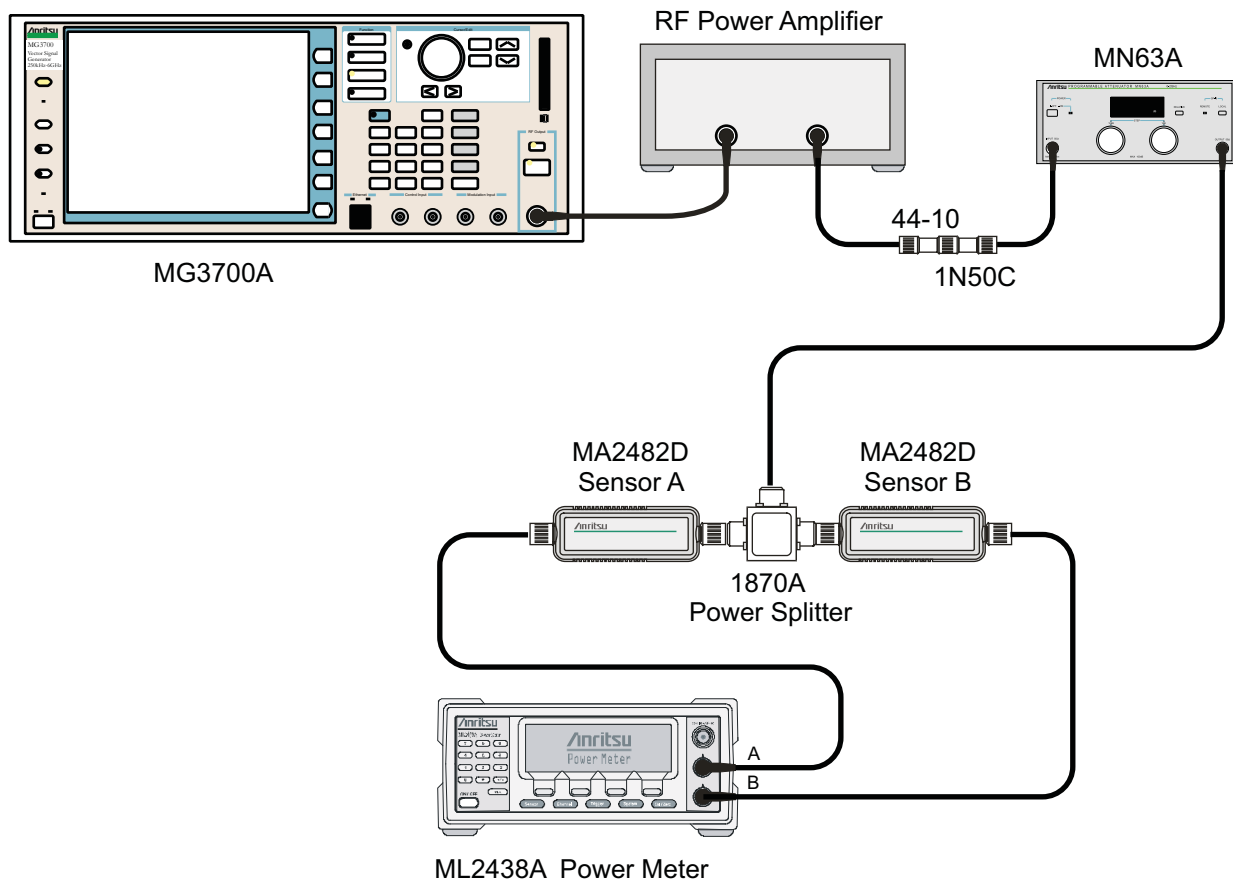

Figure 4-15. Level Accuracy Verification Setup
2. Connect the MG3700A Signal Generator, Power Amplifier with N(f)-to-BNC(m) adapters, RF Limiter, MN63A Programmable Attenuator, Power Divider, Power Meter, and Power Sensors as shown in Figure 4-15 on page 4-68
52. Turn Off the power amplifier, disconnect the power splitter from the Spectrum Master, and reconnect Sensor A to the power splitter as shown in Figure 4-15 on page 4-68.
4. Connect the MG3700A Signal Generator, Power Amplifier with N(f)-to-BNC(m) Adapters, RF Limiter, MN63A Programmable Attenuator, Power Divider, Power Meter, and Power Sensors as shown in Figure 4-15 on page 4-68.